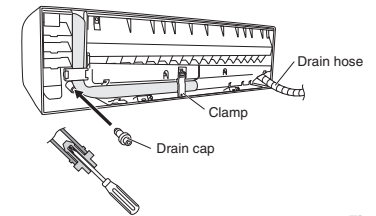

Fig. 3-100
- (d) Reattach the drain hose to the left side and the drain cap to the right side. (Fig. 3-100)
- (3) Install the indoor unit on the rear panel.
- (4) Connect the tubing and wiring led inside from outdoors.
- (5) After completing a leak test, bundle the tubing together with armoring tape and store it inside the tubing storage area at the back of the indoor unit and hold it with clamps. (Figs. 3-100 and 3-102)